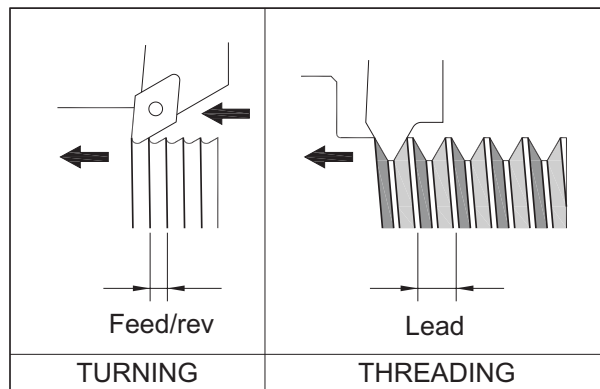

Figure 38-9
*Figure 38-9* compares feedrates for turning and threading - they are both in feedrate per revolution.